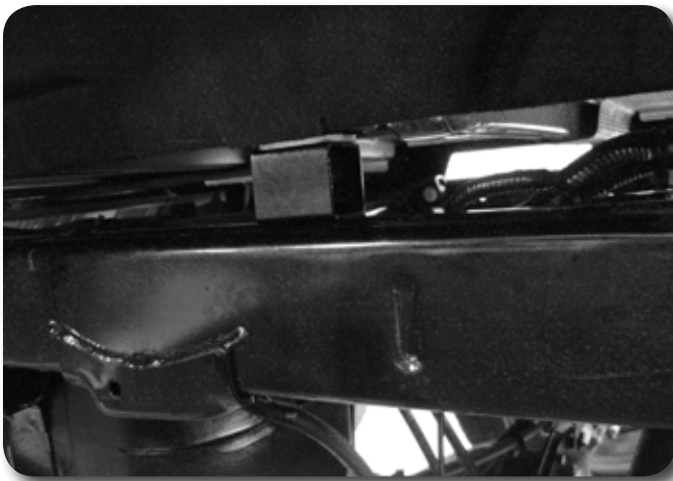

Figure 8
31. Remove the pad from the frame rail bed supports and place it on the provided steel tube bed spacer. Using the self tapping 5/16" bolt fasten the bed spacer to the frame. Do not overtighten, the bed will hold the block in place once the mounts are torqued. *See Figure 8*